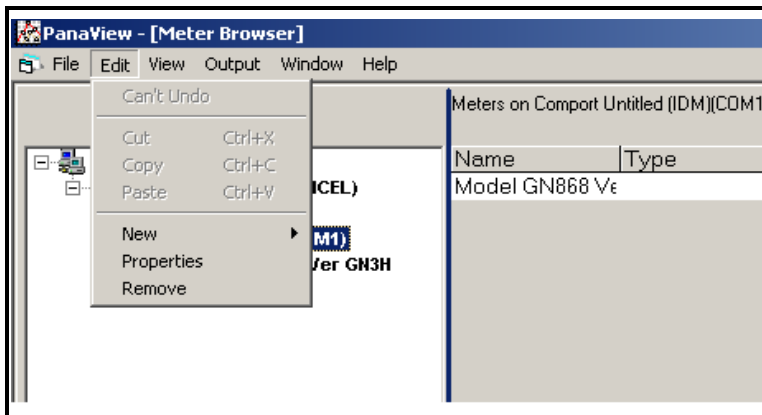
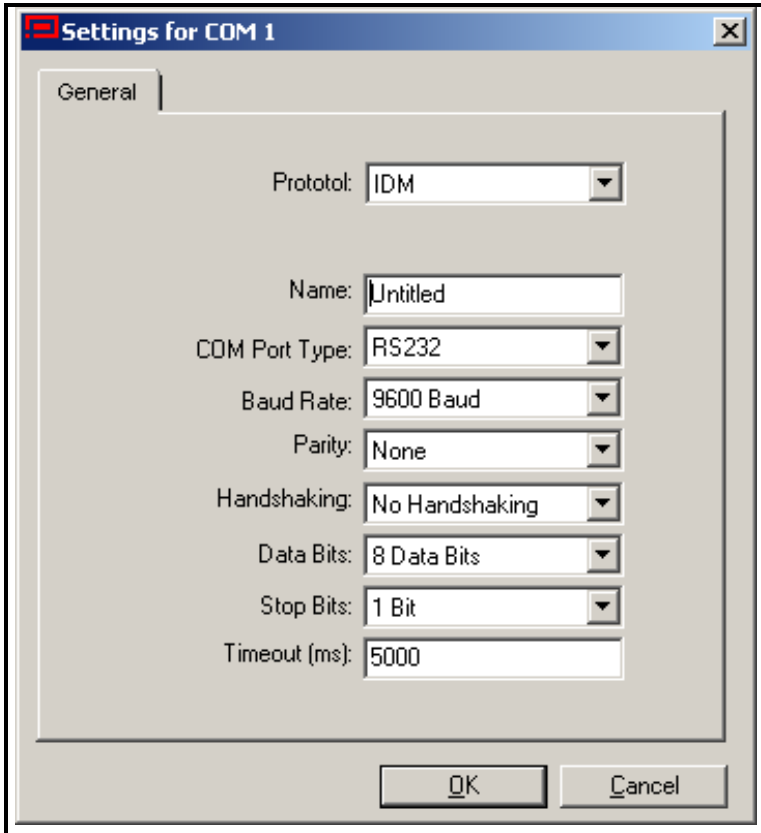
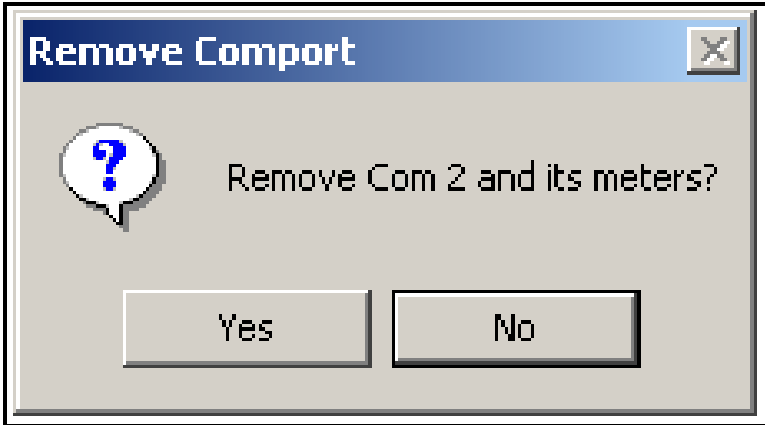

Figure 5-4: The Edit Menu
Figure 5-5: Communication Port Settings
Figure 5-6: Port Removal Confirmation
3. With the desired communication port highlighted, open the edit menu as shown in Figure 5-4 below.
1. From the “*Edit*” menu shown in Figure 5-4 on the previous page, click on the “*Properties*” option. The dialog box shown in Figure 5-5 below appears.
1. From the “*Edit*” menu shown in Figure 5-4 on page 5-4, click on the “*Remove*” option. The dialog box shown in Figure 5-6 below appears.